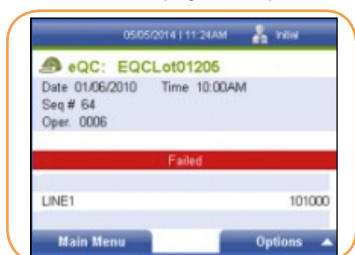

FIGURE 113
- If EQC fails (Figure 113), repeat steps 1 to 7. If EQC fails again, contact Technical Support.